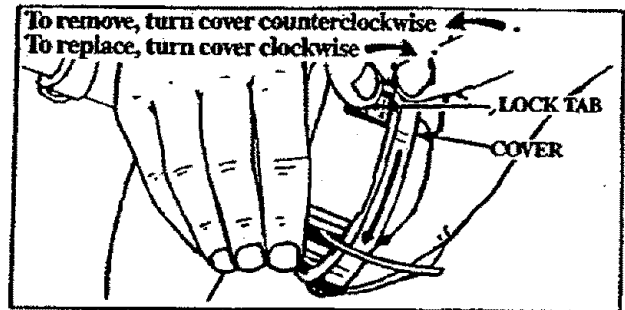

Figure 19
- Hold the Trimmer Head as shown in Figure 19. Press the Lock Tab and turn Cover counterclockwise.
- Turn Cover clockwise. Figure 19.